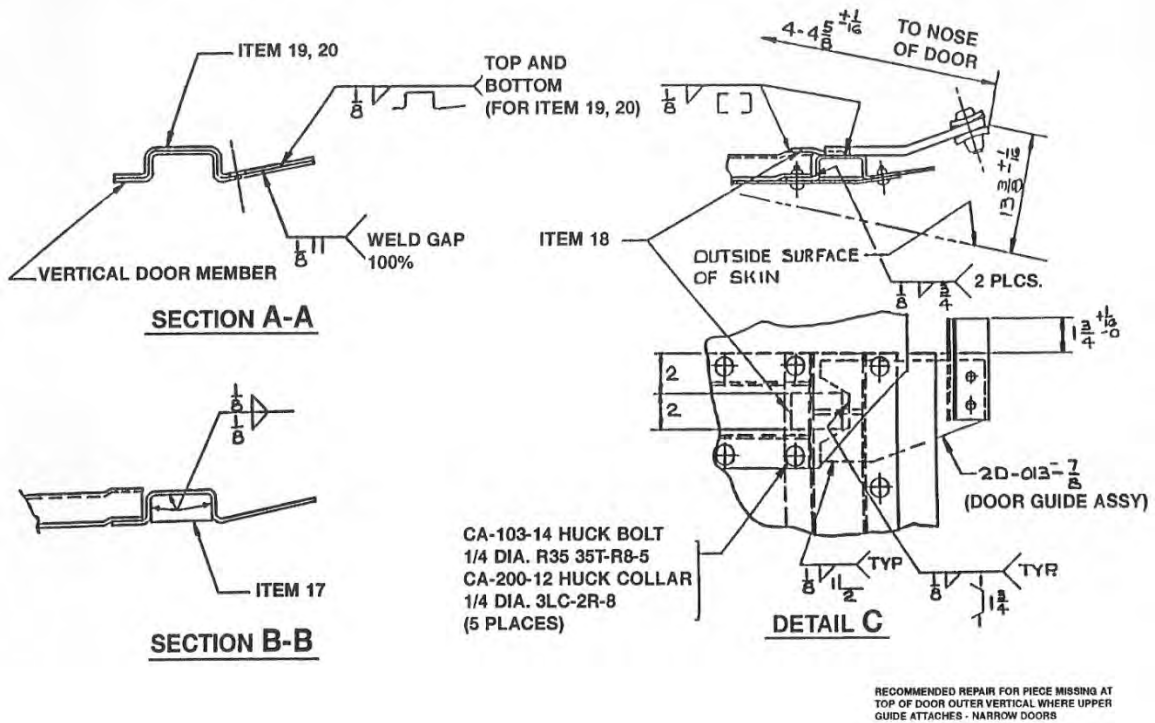

Figure 21
5. Weld the splice from the outside of door, using a 100% penetration weld to the backup bar (Refer to Section A-A, Figure 21).
8. Apply the new upper guide assembly. Refer to Detail C, Figure 21.